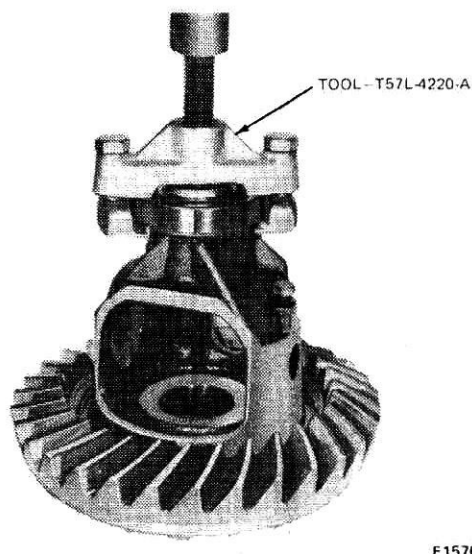

FIG. 22 Differential Bearing Removal
1. If the two differential side bearings are to be removed from the differential case, use the tool shown in Fig. 22.